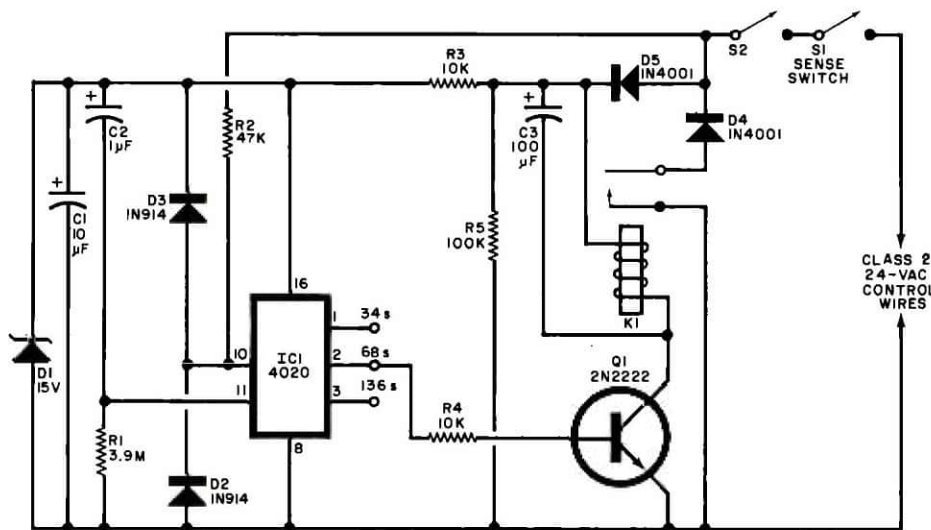

Fig. 1. Schematic of circuit. CMOS counter IC1 develops the delay interval from the 60-Hz line frequency.
**About the Circuit.** The Auto Closer is shown schematically in Fig. 1. Switch *S1* is the door-position sense switch; it remains open as long as the garage door is closed. The open switch prevents the Auto Closer circuit from drawing current from the power supply and keeps it isolated from the rest of the door opener circuit. When the sense switch closes as the door opens, 24 volts ac from the main opener power supply is applied to the Auto Closer. Diode *D5* rectifies the ac into pulsating dc which is filtered by *C1* and *R3*. Zener diode *D1* provides +15 volts regulated for *IC1*, a CMOS 4020 14-stage binary counter.